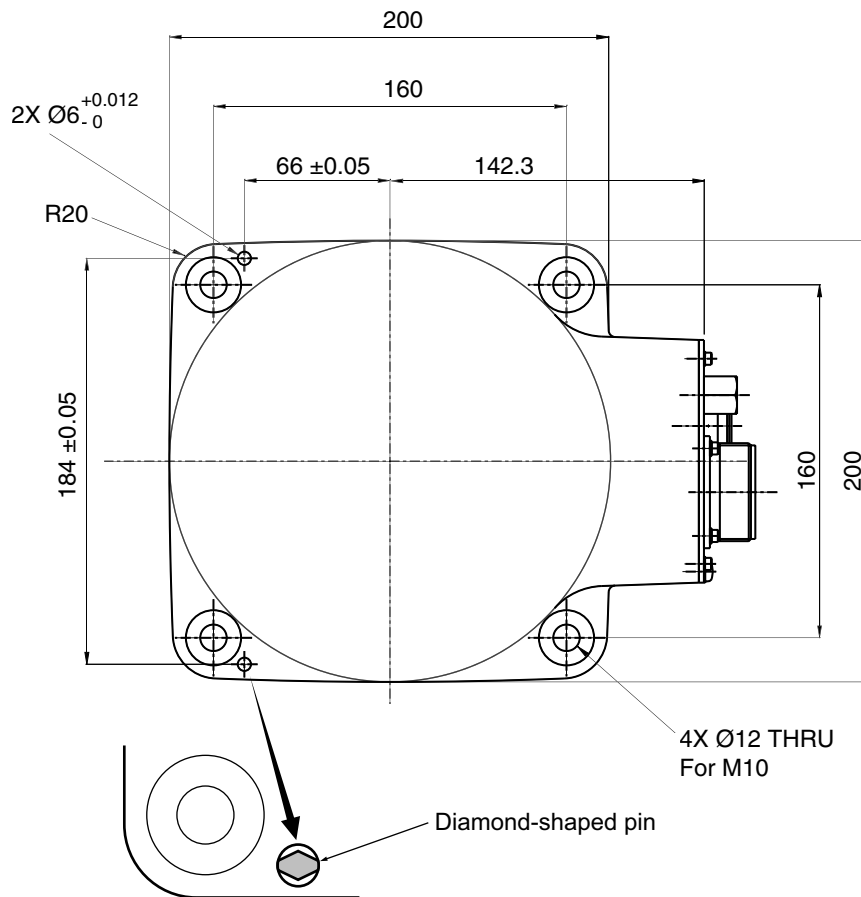

Figure 3-2. Mounting Hole Pattern for Robot
1. See **Figure 3-2** for the dimensions of the mounting holes in the robot mounting position where the robot unit is to be secured.
3. Drive the diamond-shaped pin into the Ø4, H7 hole so that it orients as shown in **Figure 3-2**.